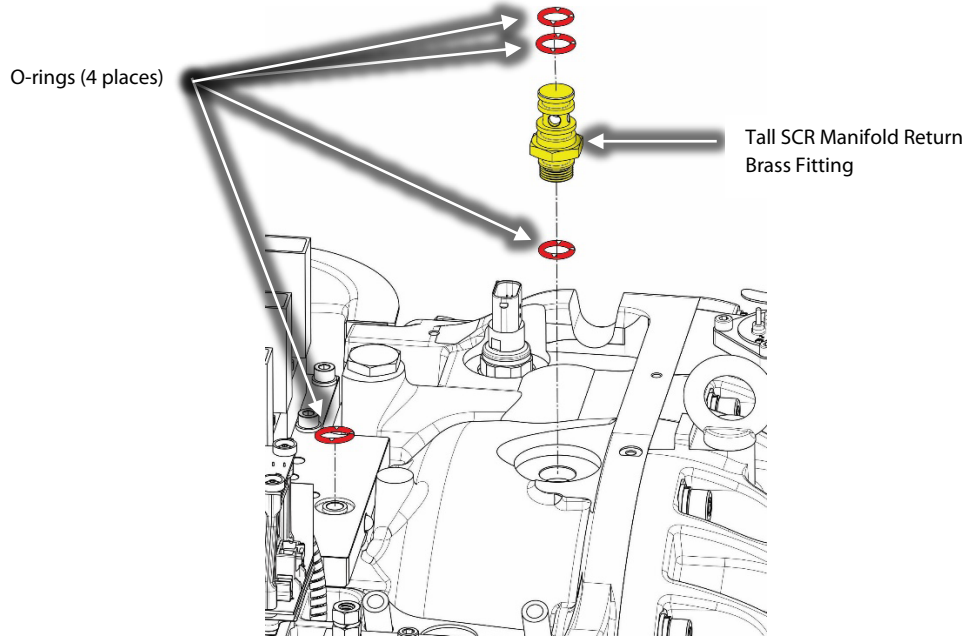

Figure 4 – Tall SCR Manifold Return Brass Fitting Removal for Option 1
4. Remove the SCR Manifold Return Brass Fitting. Refer to Figure 4 – Tall SCR Manifold Return Brass Fitting Removal for Option 1 for this and the following three steps.